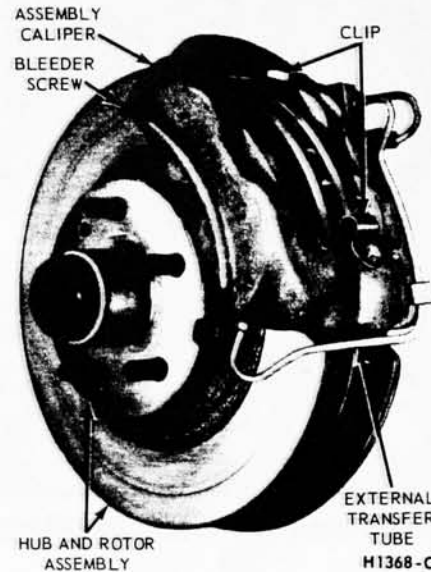

FIG. 3—Disc Brake Assembly
The disc brake is a fixed caliper, opposed piston, non-energized, ventilated disc type, actuated by a hydraulic system (Fig. 3). There is no lateral movement of either the disc (rotor) or the caliper. The caliper assembly consists of two caliper housings bolted together with each half contain-
2. Remove the two bolts that attach brake shoe retaining clips shield (Fig. 3).
2. Install the shoe retaining clips and secure to the caliper with two attaching bolts (Figs. 3 and 10).